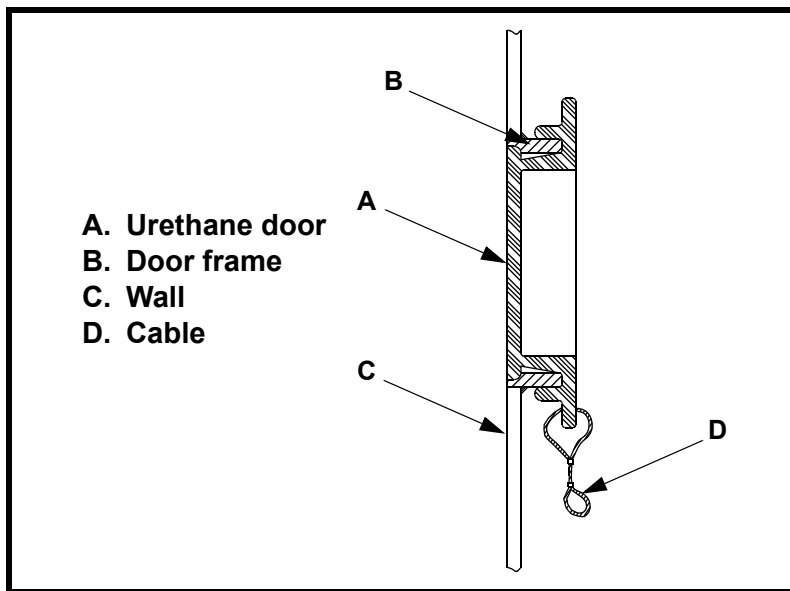

Figure 4. Installing Martin[®] Round Urethane Inspection Door
1. Remove urethane door (A, Figure 4) from Martin[®] Round Urethane Inspection Door frame (B).
2. Hold door frame against wall (C). Draw circle on wall around outside of door frame to mark location of door.
7. Tack weld end of cable (D) to wall or door frame.